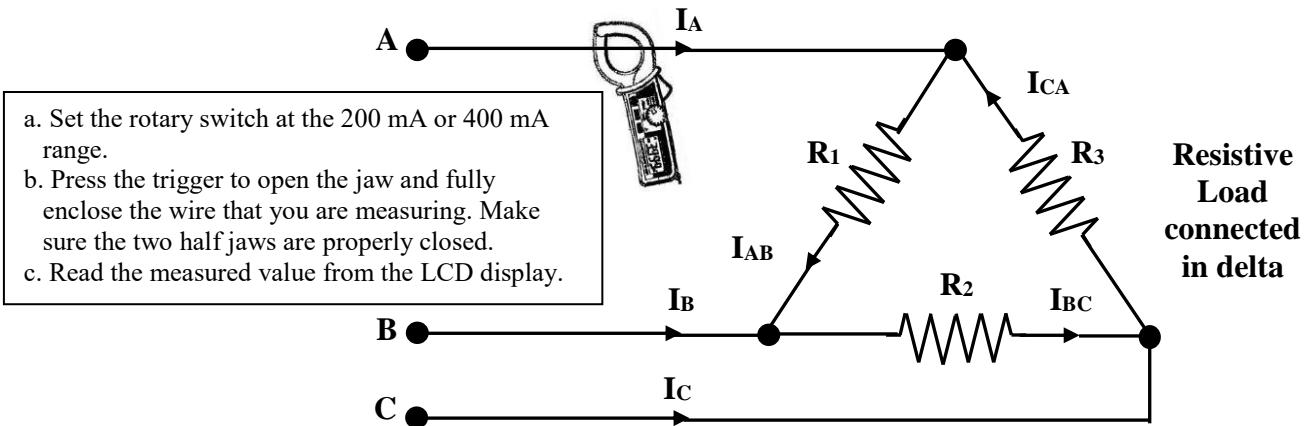

Figure 1
2. Connect up the circuit in Figure 1.